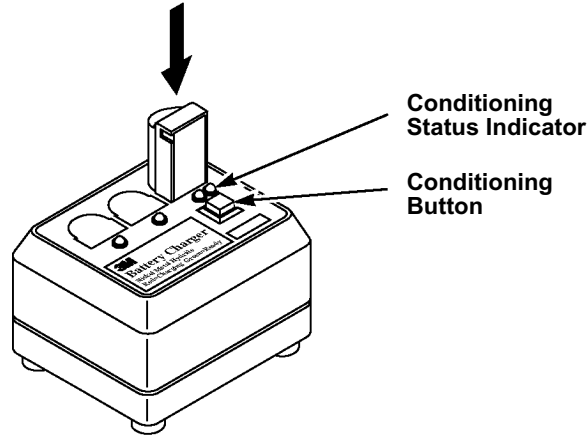

Figure 19.
1. Insert the battery in the charging/conditioning slot as shown in Figure 19.